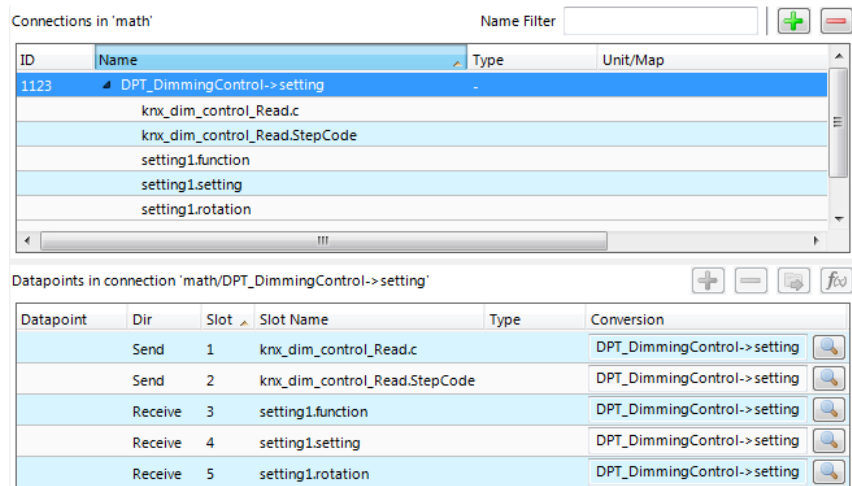

Figure 46: Created new multi-slot connection from math adaptor.
3. In the dialog **Select Multi-Slot Math Adaptor** select an existing adaptor and click **Select**. A new multi-slot connection is added to the connection list with empty slots as depicted in Figure 46.